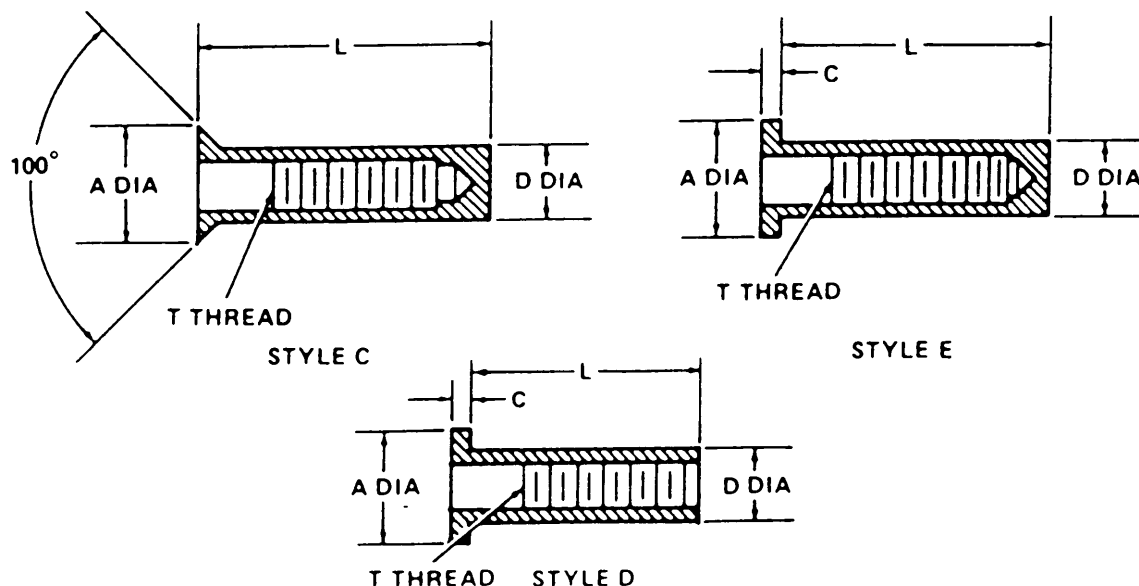

Figure 3-6. Rivnuts (Threaded Inserts).
b. Rivnut Installation and Removal. Rivnuts (threaded inserts) are tubular rivets with internal threads and are used throughout the shelter wherever blind threads are required. The types of rivnuts used in the shelter are shown in Figure 3-6 and described in Table 3-3. Flat head rivnuts (style D and E) may be used wherever head thickness will not interfere with installation of equipment. Countersunk head rivnuts (style C) are used for flush installation. Keyed rivnuts are used in locations which are subject to vibration and torque. Closed end rivnuts (styles C and E) must be used for exterior repairs and floor repairs to keep moisture and dirt from entering panels. Open end rivnuts (style D) may be used in areas where sealing is not required.